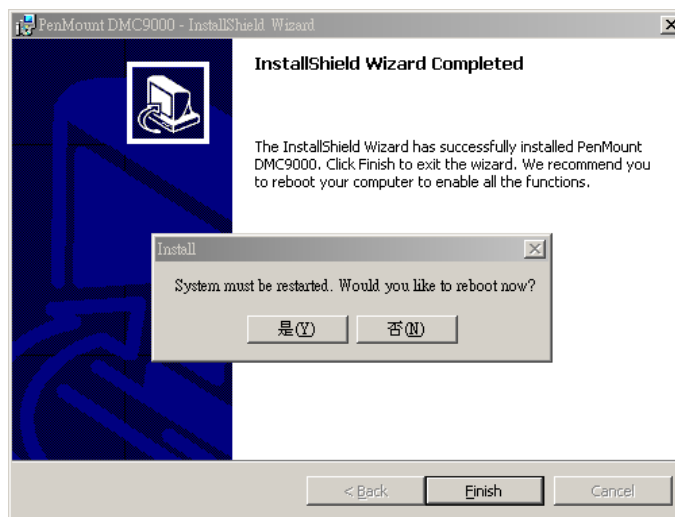

Figure 6-28: Reboot the Computer
Step 6: The user is then prompted to select to restart the computer now or later (Figure 6-28). For the settings to take effect, the computer must be restarted. Click **Yes** to restart the computer.